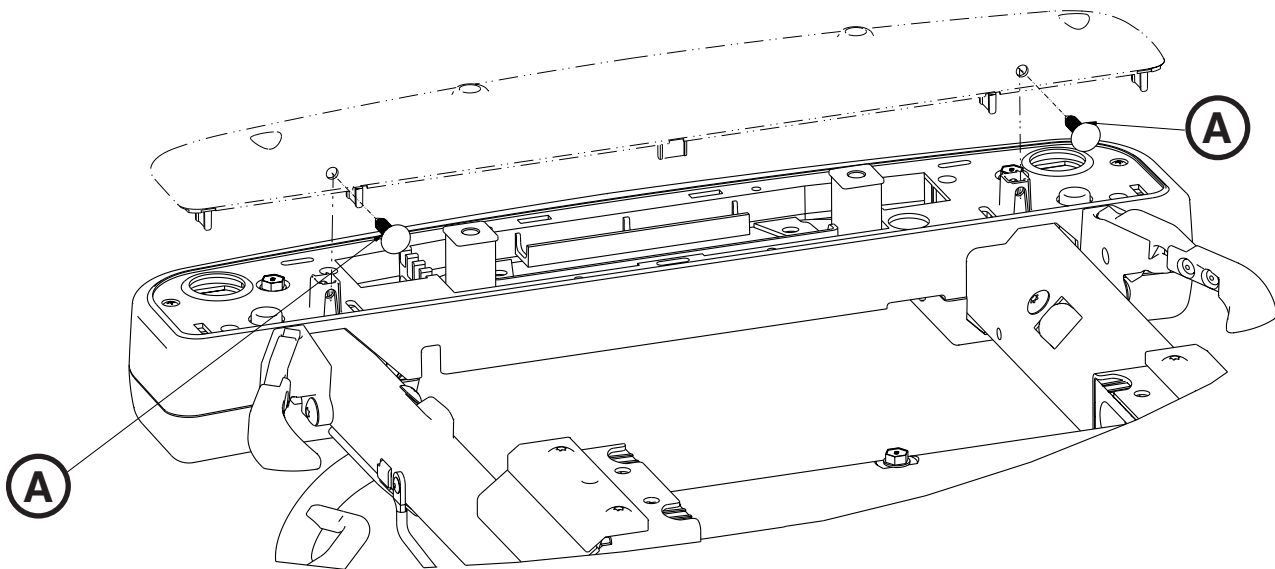

Figure 57
2. Using a slotted screwdriver and needle nose pliers, remove the two panel fasteners (A) that hold the foot end cover to the litter (Figure 57).